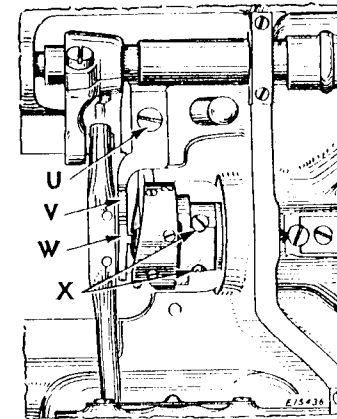

Fig. 23
In case the hook is not correctly timed, loosen the three screws in the hub of the hook (at X, Fig. 23) which can be reached
Remove the needle, slide plate and bobbin case. Take out the screw (U, Fig. 23) and remove the bobbin case holder position bracket (V, Fig. 23). Loosen the three set screws (at X) in the
When the hook is in position on the shaft, turn the bobbin case holder (BB) until the notch (CC) is at the top, then replace the bobbin case holder position bracket (V, Fig. 23), being careful to see that the position stud (W, Fig. 23) enters the notch at the top of the bobbin case holder, as shown in Fig. 23, then securely fasten the position bracket by means of the screw (U). Replace the needle and time the sewing hook as instructed on pages 20 and 21. Replace the bobbin case and slide plate.